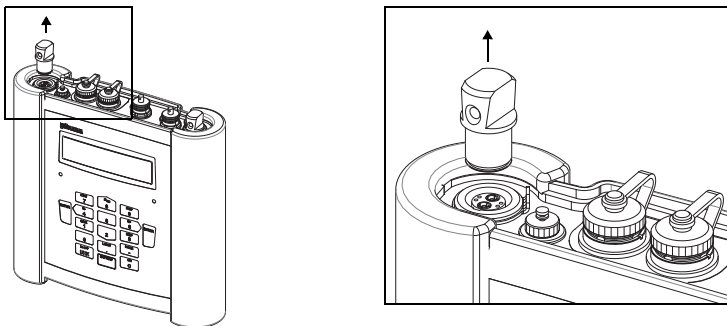

Fig. 7.6: Removal of the blind plug (FLUXUS F608**-A2)
- Remove the blind plug (see Fig. 7.6).